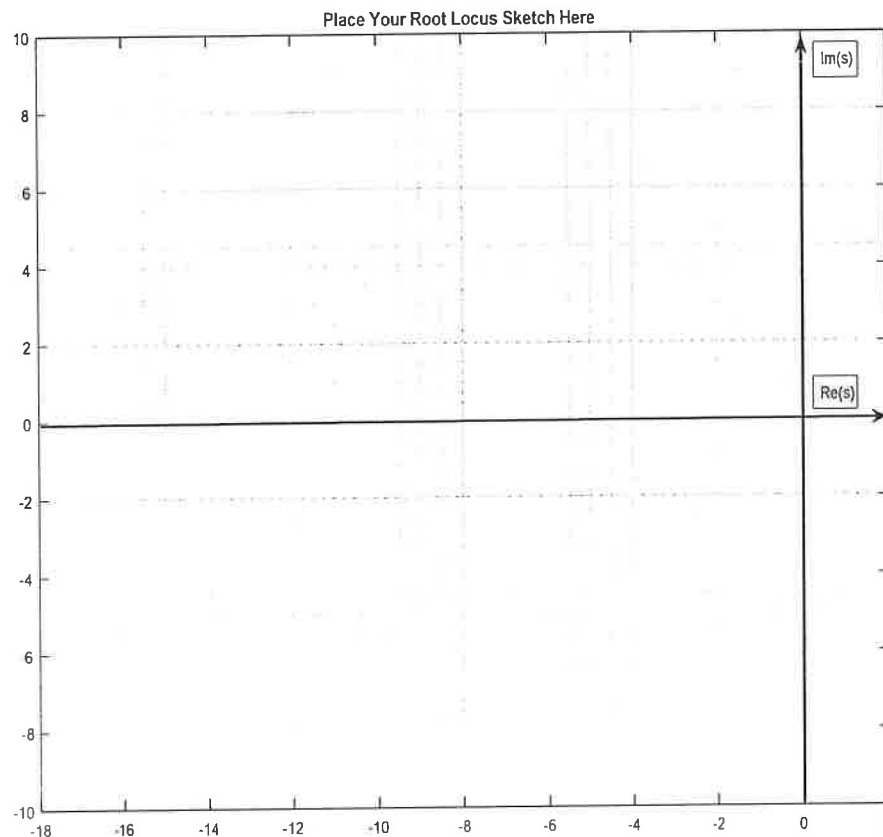

Figure Q3.1 – Space for RL Sketch for Question 3
- 1) **(10 marks)** Sketch the Root Locus for the system, in the space provided in Figure Q3.1. Calculate all relevant coordinates, such as: asymptotic angles, break-in/away points, the location of the centroid as well as the coordinates of the crossover with the Imaginary axis, i.e. ω_{osc} and the corresponding value of the critical gain, K_{crit} , at which the system becomes marginally stable, if applicable.